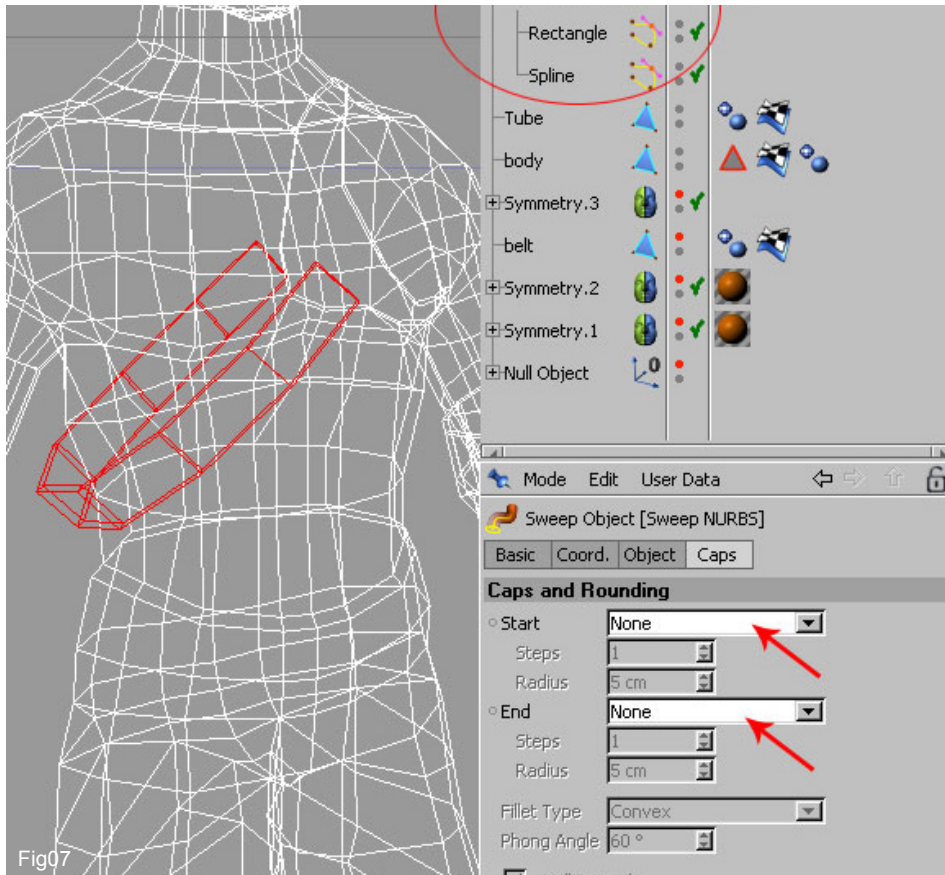

Fig07
7. Create now another Spline. This time choose a simple Rectangle then Add a Sweep NURBS object and drag the two Spline in it. Scale the Rectangle Spline in order to obtain the shape like shown in Fig07. In the Sweep NURBS properties uncheck both capping boxes.